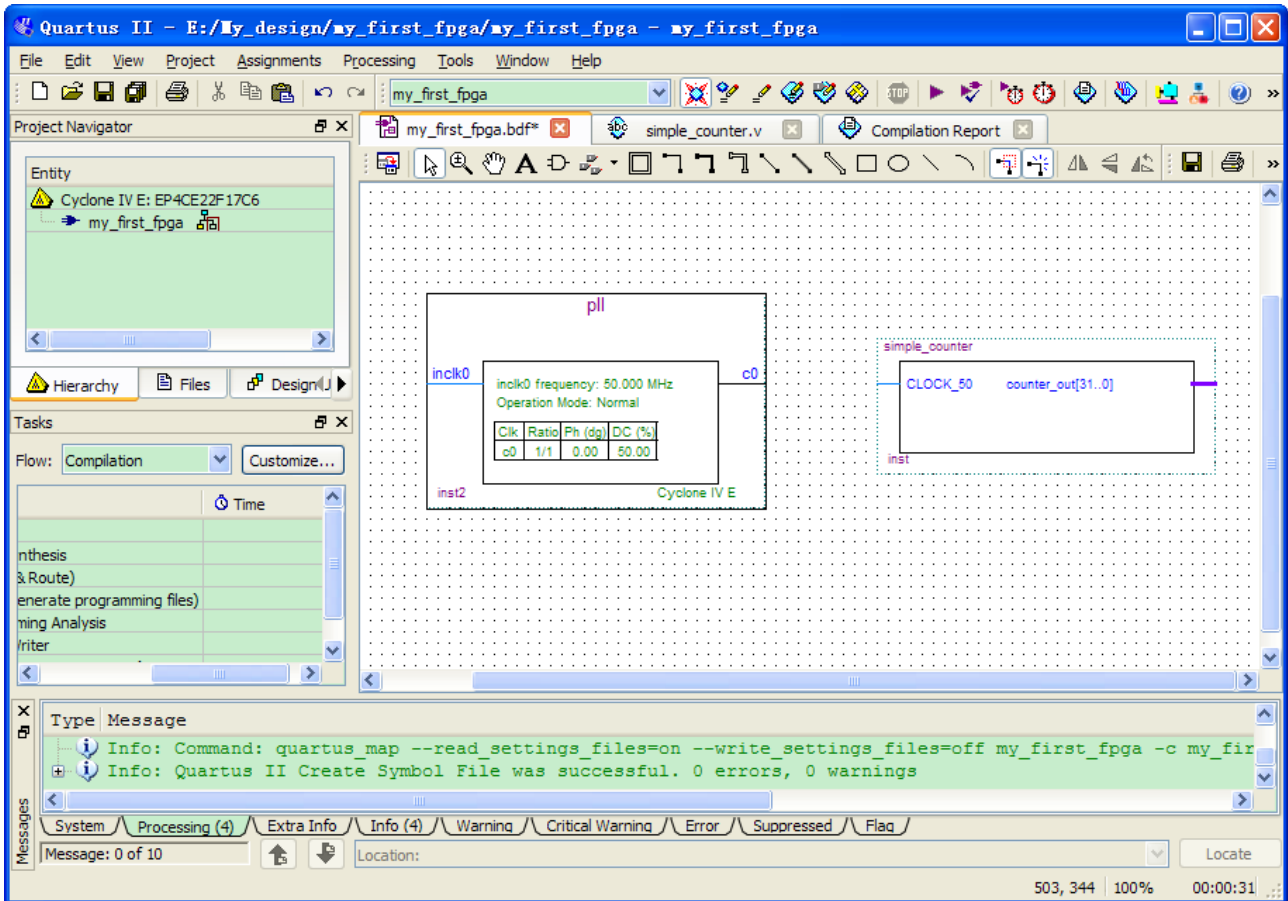

Figure 6-26 Place the PLL Symbol
- Click OK and place the pll symbol onto the BDF to the left of the simple_counter symbol. You can move the symbols around by holding down the left mouse button, helping you ensure that they line up properly. See Figure 6-26.